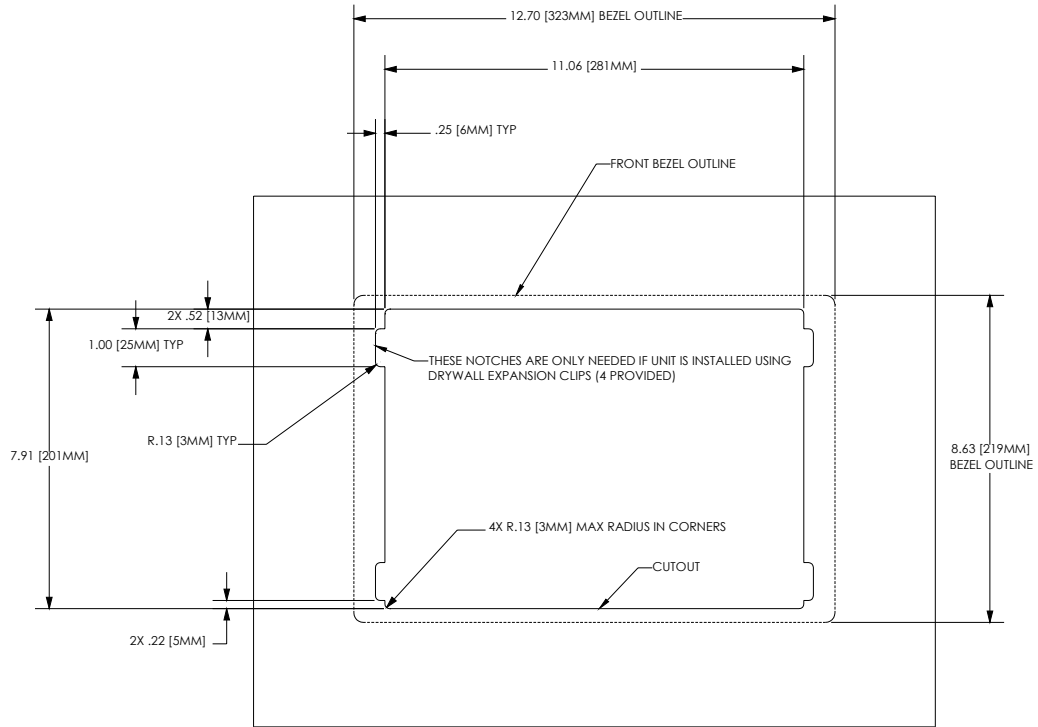

FIG. 10 MVP-WDS Wall Mount cutout dimensions using expansion clips
1. Cut out the surface for the WDS using the dimensions shown in installation diagram **SP-5965-01** (reproduced in FIG. 10 on page 10). It is recommended that you cutout the surface slightly smaller than what is outlined in the installation drawings so that you can make any necessary cutout adjustments.